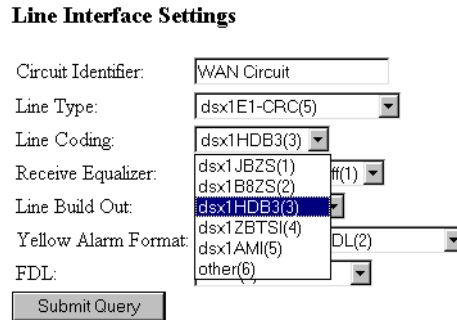

Figure 40. Line Coding pull-down menu with dsx1HDB3(3) selected
- From the *Line Coding* pull-down menu (see figure 40) select *dsx1AMI(5)* or *dsxHDB3(3)*. Most installations will use HDB3.